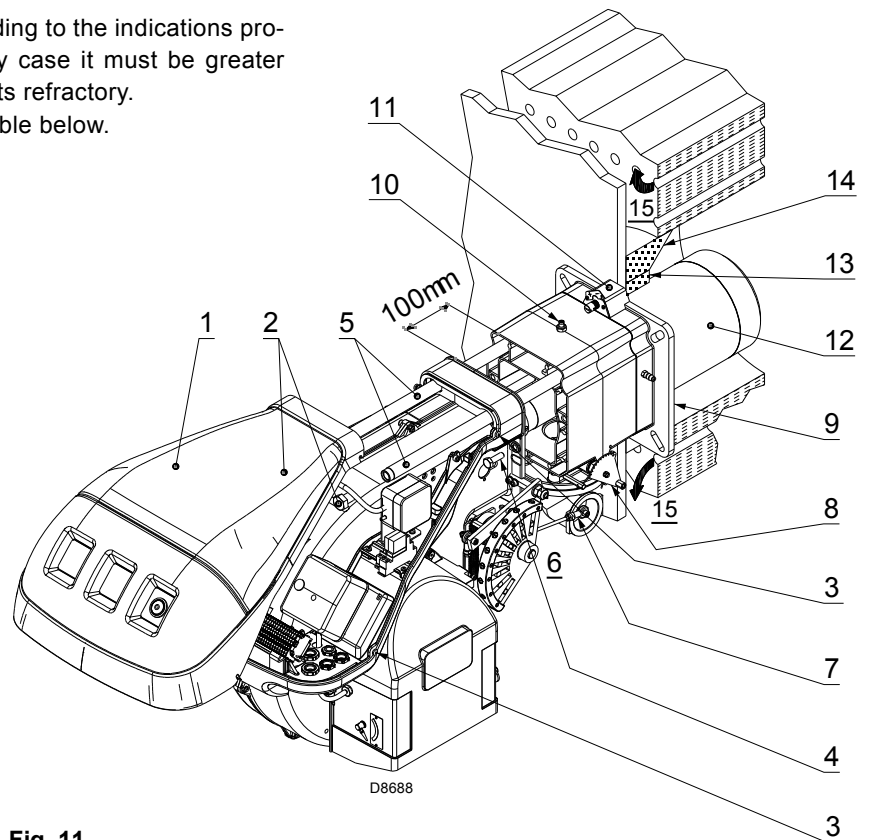

Fig. 11
This protection must not compromise the extraction of the blast tube. See Fig. 11.
Separate the combustion head from the rest of the burner, Fig. 11.
Once this operation has been carried out, fix the flange 11)(Fig. 11) to the boiler plate, interposing the insulating gasket 9)(Fig. 11) supplied.
- reassemble the burner on the guides 3) at about 100 mm from the pipe coupling 4) - burner in the position shown in Fig. 11;